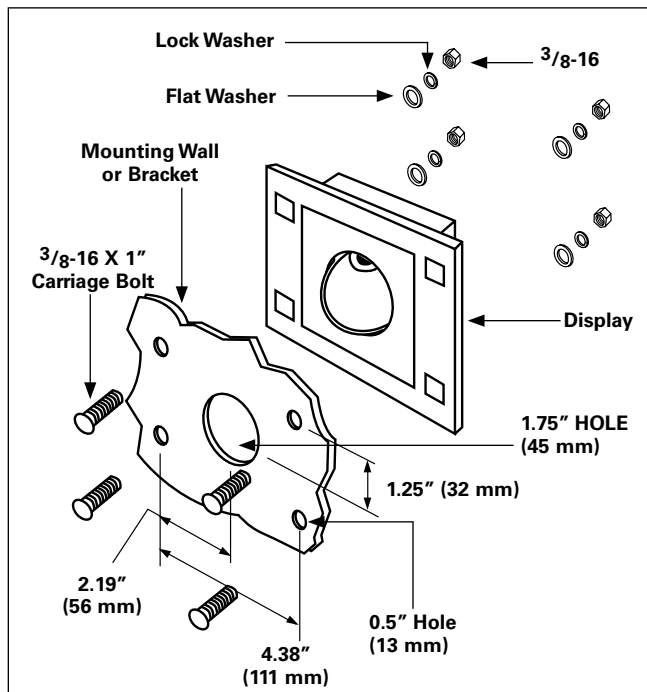

Figure 7. Remote FISHEYE™ display installation diagram
1. **Punch or drill** four 0.5" (13 mm) and one 1.75" (45 mm) holes in the equipment cabinet sill, sidewall or door, as shown in Figure 7.